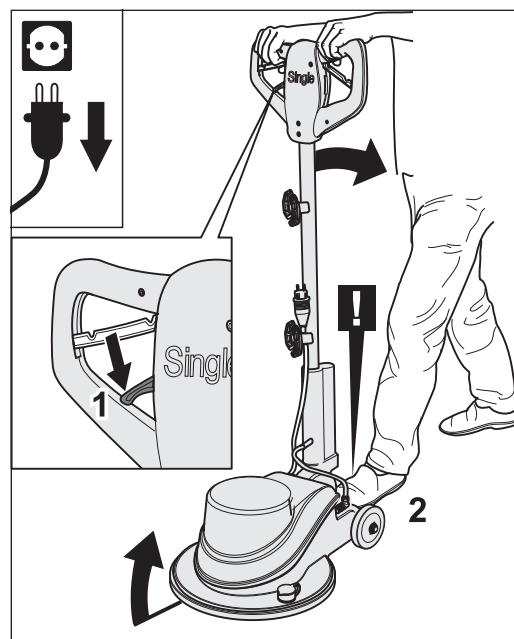

Fig. 32 Release the adjusting lever and carefully tilt the machine backwards. Ensure that the machine is stable!
- 3 Release the adjusting lever so that the guide tube can engage again. Carefully tilt the machine backwards on the wheels. As you do so, steady the machine with your foot to stop it rolling away (Fig. 32). **Please ensure that the machine is stable before commencing work!**